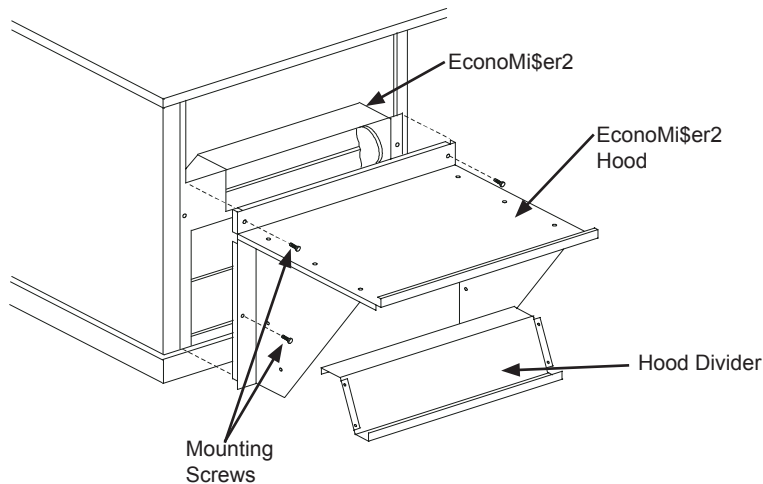

Fig. 8 - EconoMiSer2 Hood Installation
9. Remove and save the 12-pin jumper plug from the unit wiring harness (located in the upper left corner of the unit). Insert the EconoMiSer2 plug into the unit wiring harness. Refer to Fig. 8 for wiring diagram.
11. Install the EconoMiSer2 hood over the EconoMiSer2. Use screws provided. (See Fig. 8.)